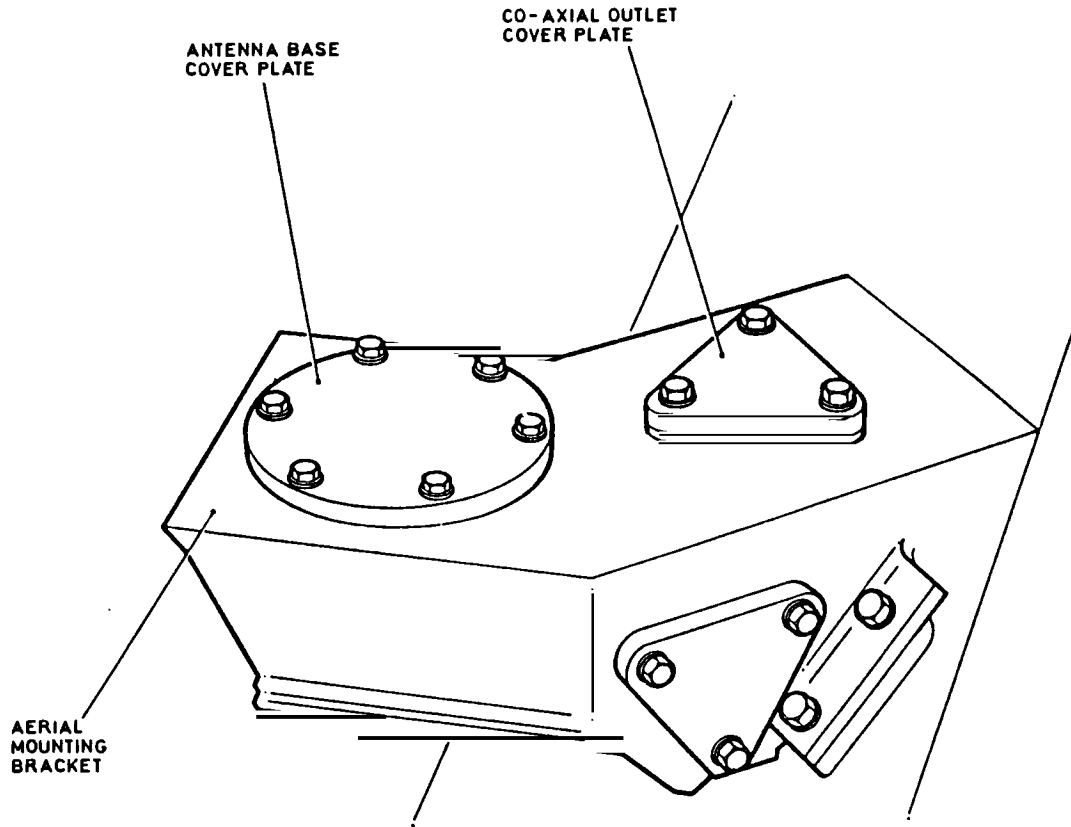

Fig 2 'B' set position antenna base and co-axial outlet cover plates diagram
Fit the aerial base mount bracket (1) to the external rear l.h.s. as per Fig 2 and Table 3, operation, 1.
Fit the co-axial outlet cover plates (4) in the 'A' and 'B' set positions as per Figs 2 and 3 and Table 3, operation 2.
13.2.2 Secure a cover plate (4) and a gasket (6) in the 'A' set position (Fig 2) using four screws (14) and washers (20 and 23).
Fit the antenna base cover plates (3) in the 'A' and 'B' set positions as per Figs 2 and 3 and Table 3, operation 3.
13.3.2 Secure an antenna base cover plate (3) and a gasket (5) in the 'A' set position (Fig 2) using six screws (13) and washers (19 and 22).